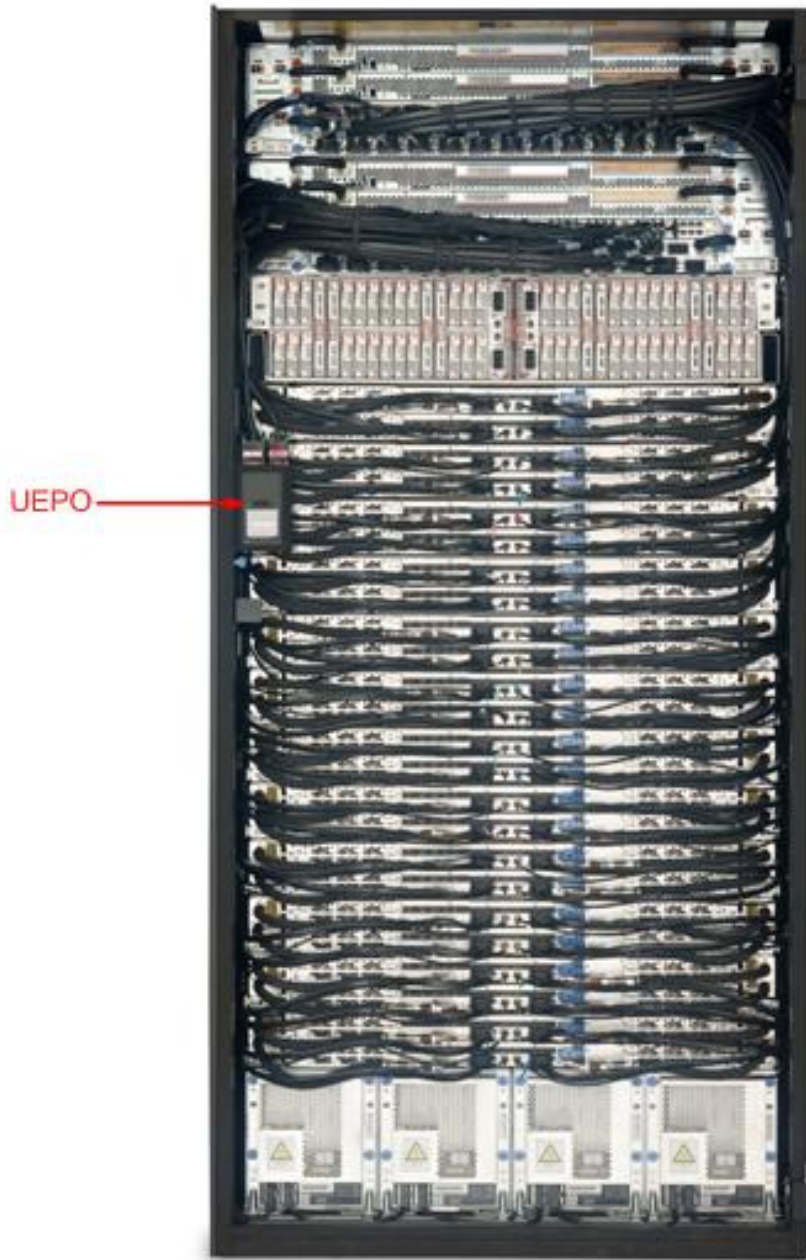
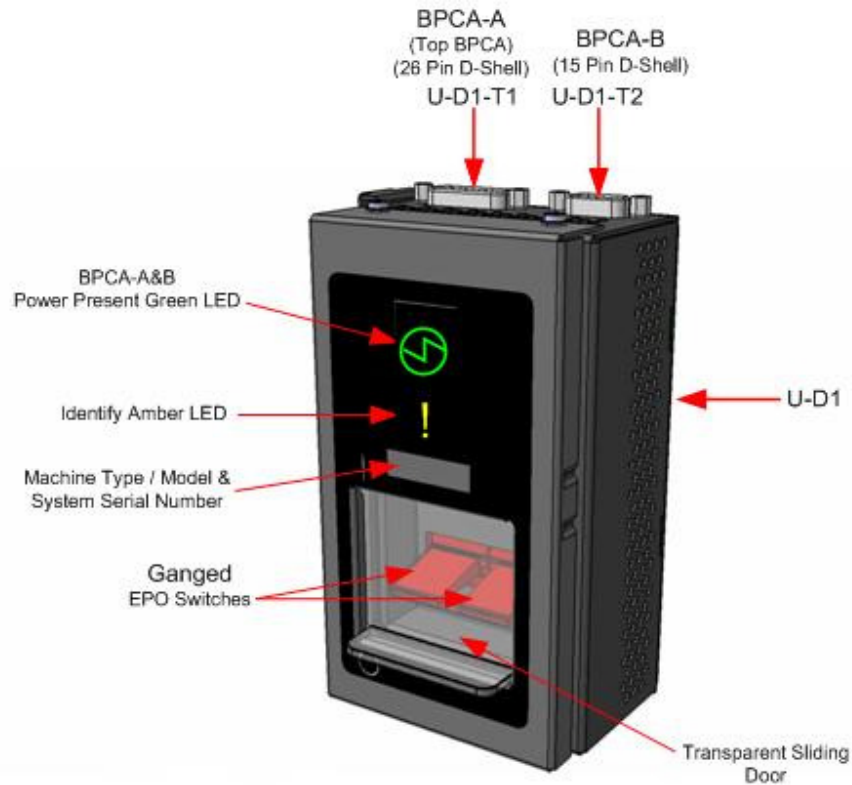

Figure 8 Frame Photo showing UEPO location
Figure 9 UEPO assembly showing frame Identify Amber LED
- STEP 7 Locate the frame. Confirm that it is the correct frame by checking that its UEPO Panel Identify LED is blinking. This LED is located on the UEPO panel and it is marked by the “!” symbol (see Figure 8 and Figure 9).
If you are servicing a SAS Cable chaining two Port Cards within the same DE, then you need to locate the frame. Confirm that it is the correct frame by checking that its UEPO Panel Identify LED is blinking. This LED is located on the UEPO panel and it is marked by the “!” symbol (see Figure 8 and Figure 9).